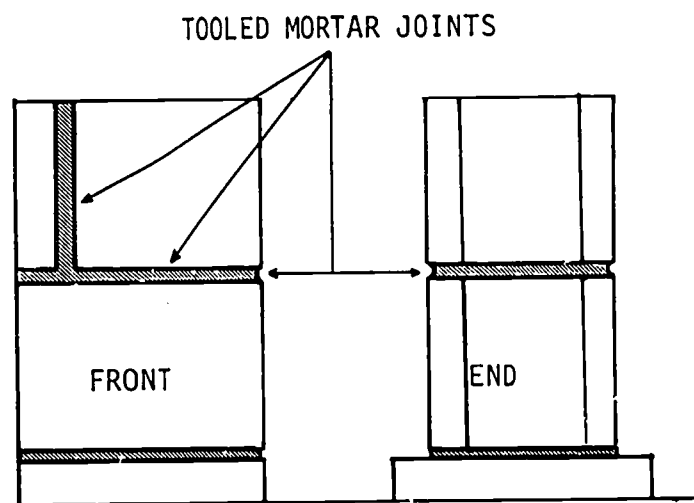

Fig. 44-4. Tooled Mortar Joints
10. Check the mortar joints of the concrete blocks. When the mortar becomes thumbnail hard, tool the joints. See Fig. 44-4.